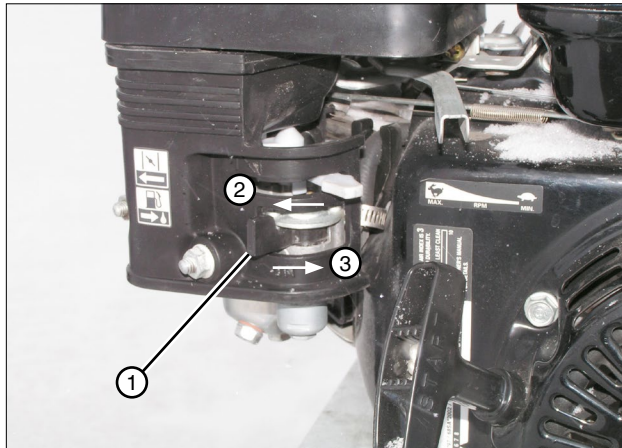

Figure 14-2 1. Engine Fuel Valve Lever
- OFF position, fuel from the tank selection valve is prevented from flowing to the engine carburetor. See figure 14-2.
- ON position, fuel from the tank selection valve is allowed to flow to the engine carburetor. See figure 14-2.